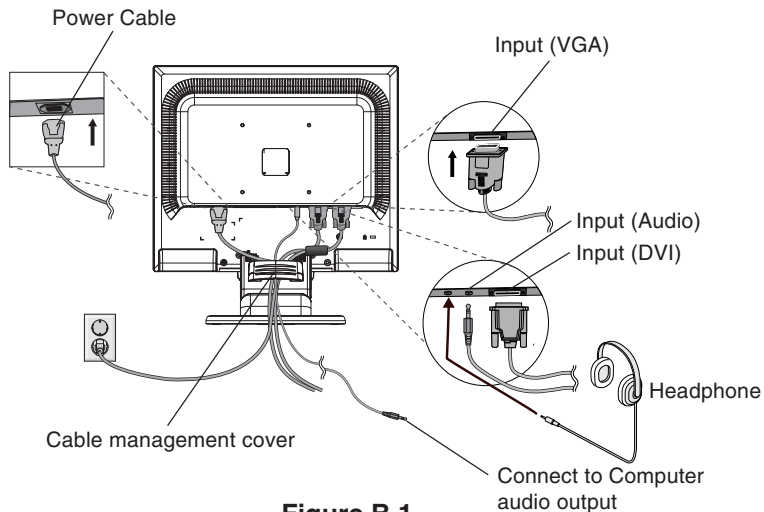

Figure B.1
4. Connect all cables to the appropriate connector on the back of the monitor (**Figure B.1**). Connect Headphones (not included) to the appropriate connector at the rear side of the monitor, if desired (**Figure B.1**).
6. To attach the Cable management cover, insert the tabs of the Cable management cover into the holes on the Stand and slide the Cable management cover downward into place (**Figure B.1**) making sure that the tabs are completely secure.